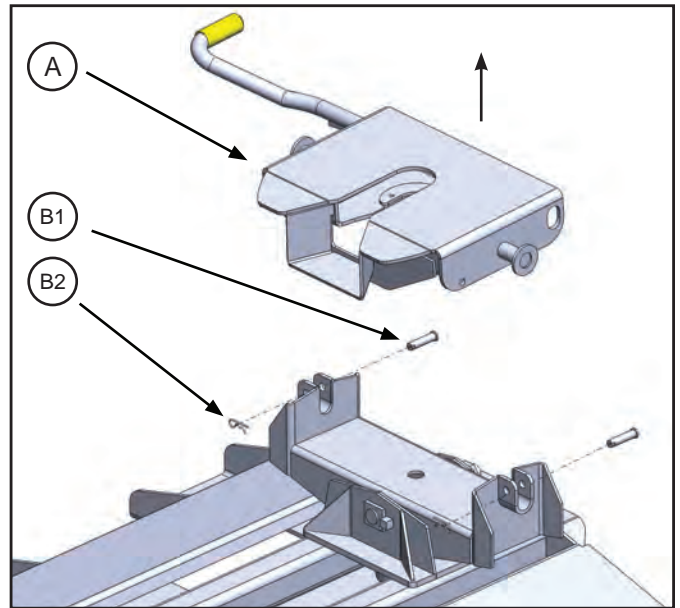

Figure 1
1. Remove the Fifth Wheel Plate {A} of the hitch by pulling the Pin Clip {B2} and Rocker Arm Clevis Pin {B1} from either side of the Fifth Wheel Plate (see Figure 1). Set parts aside for reassembly in later steps.